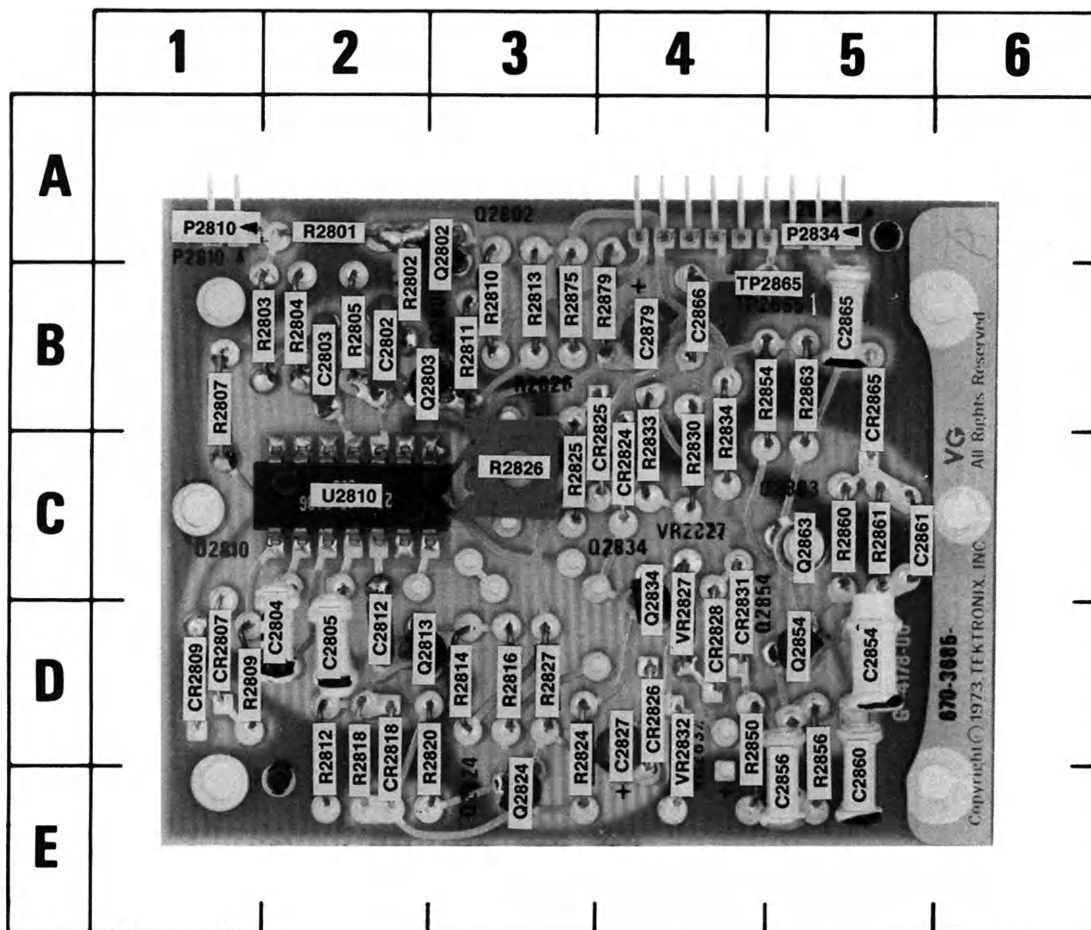

Fig. Option 5-3. A12 TV Sync Separator & Inverter Ampl board component locations.
- e. Connect a 10X probe from the test oscilloscope (Vertical Volts/Div set for .2 V) to TP 2865 (see Fig. Option 5-3).